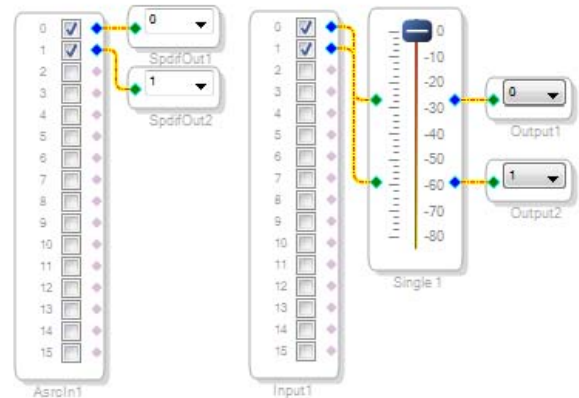

Figure 48. Signal Flow Including the S/PDIF Input (via the ASRC) Connected to the S/PDIF Output
13. Connect the signals from the **Asrcin1** block to the **SpdifOut1** and **SpdifOut2** blocks with wires so that the resulting signal flow resembles Figure 48.